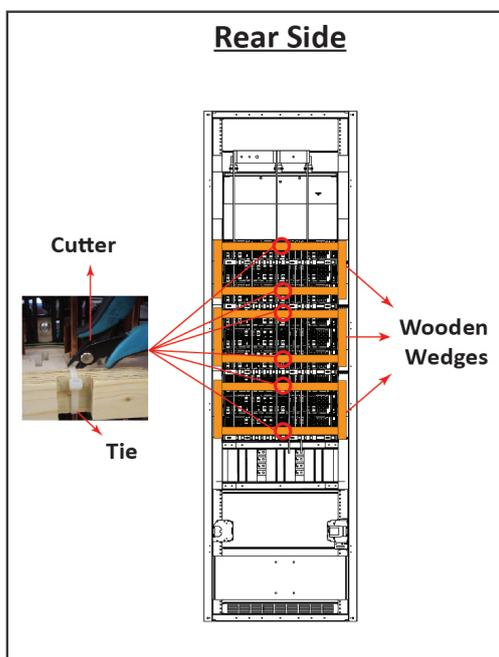

Figure 5. System rear view
2. Identify the protection (Refer Figure 5).